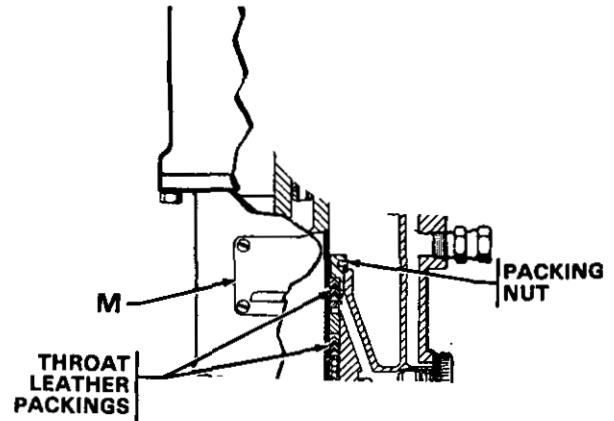

Fig 3
To check, first follow the **Pressure Relief Procedure Warning**, above. Then remove the identification plate (M) from the motor. Using a spanner wrench or a 0.22 in. (5.6 mm) diameter rod, adjust the nut. Reinstall the identification plate before operating the pump. See Fig 3.